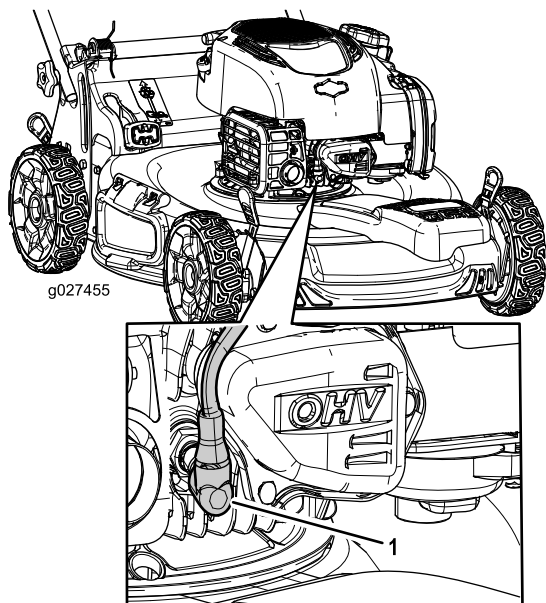

Figure 21
2. Disconnect the spark-plug wire from the spark plug (Figure 21).